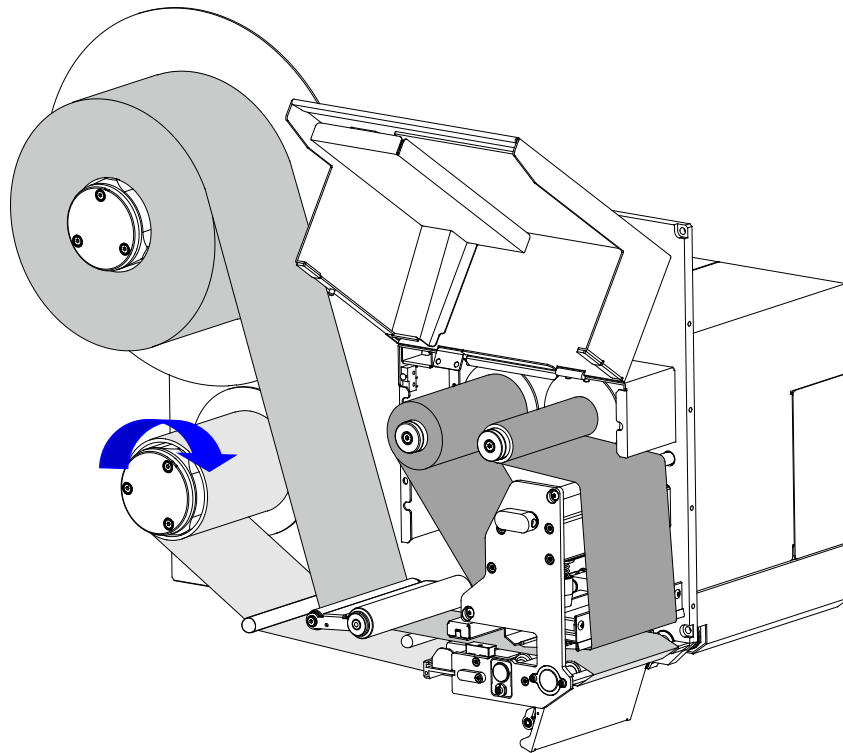

Figure 2-29 Liner Loaded
10. Slide the Liner Take-up Roll on the Rewind spindle and push it firmly against the Stop Plate. Turn the Rewind spindle counter clockwise until the liner is tightly wound. See Figure 2-29.